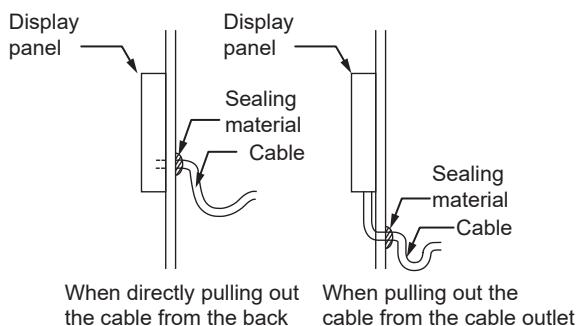

Figure 15 Wiring cable
(4) Notes for wiring
- Leave some slack as shown in fig. 15 to prevent water from entering.